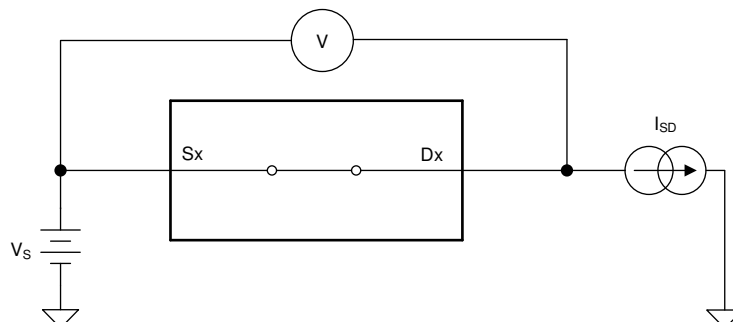

Figure 7-1. On-Resistance Measurement Setup
The on-resistance of a device is the ohmic resistance between the source (Sx) and drain (Dx) pins of the device. The on-resistance varies with input voltage and supply voltage. The symbol  $R_{ON}$  is used to denote on-resistance. The measurement setup used to measure  $R_{ON}$  is shown in Figure 7-1. Voltage (V) and current ( $I_{SD}$ ) are measured using this setup, and  $R_{ON}$  is computed as shown below with  $R_{ON} = V / I_{SD}$ :